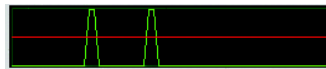

Figure 89. Adequate Sensitivity Level
- Figure 89 shows the position of the red sensitivity indicator at a medium 50% sensitivity setting (default). In this case, a motion event is large enough to cause the green motion indicator to surpassed the red sensitivity indicator.